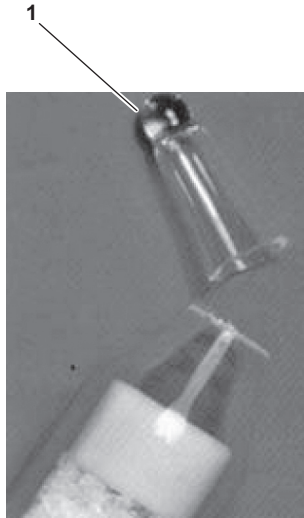

Figure 6-53. Drager Test Tube Tip
- (9) Carefully score and break off the tips (figure 6-53, item 1) on both ends of one oil (figure 6-54, item 1), one carbon monoxide (CO) (figure 6-54, item 2), and one carbon dioxide (CO₂) (figure 6-54, item 3) Drager test tube using the tube opener (figure 6-55, item 1).